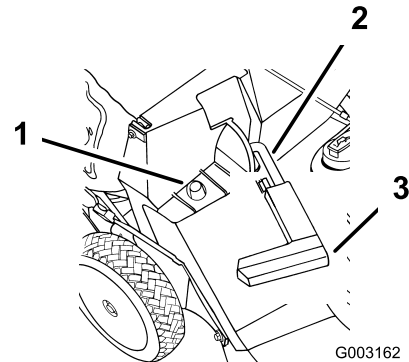

Figure 22
2. Ensure that the discharge door handle is fully forward and that the pin is engaged in the catch (Figure 22).
3. Slide the hole in the bag frame onto the retaining post on the discharge tunnel (Figure 22).
2. Raise the discharge door handle and move it forward to engage the pin with the catch (Figure 22).